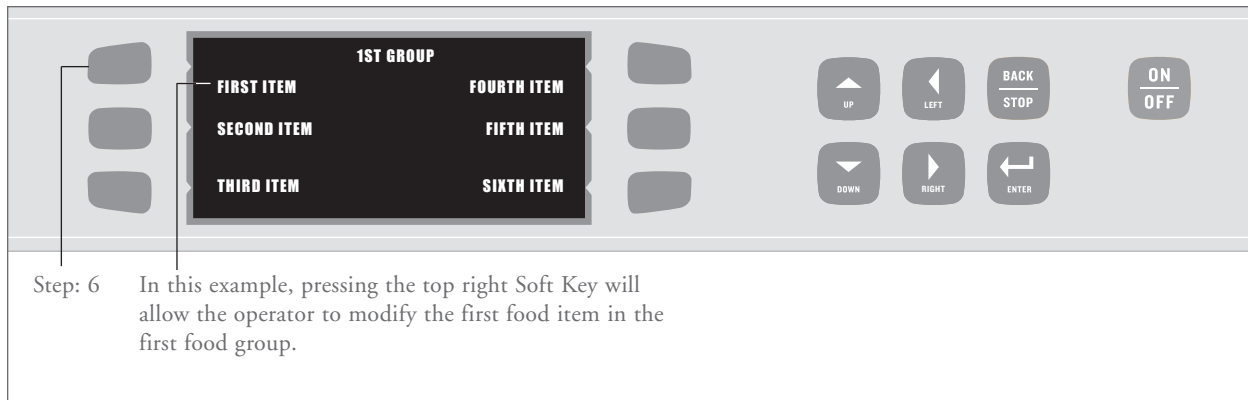

FIGURE 16: Modifying Recipes – Step 6
6. Select Food Item to be modified (Figure 16).